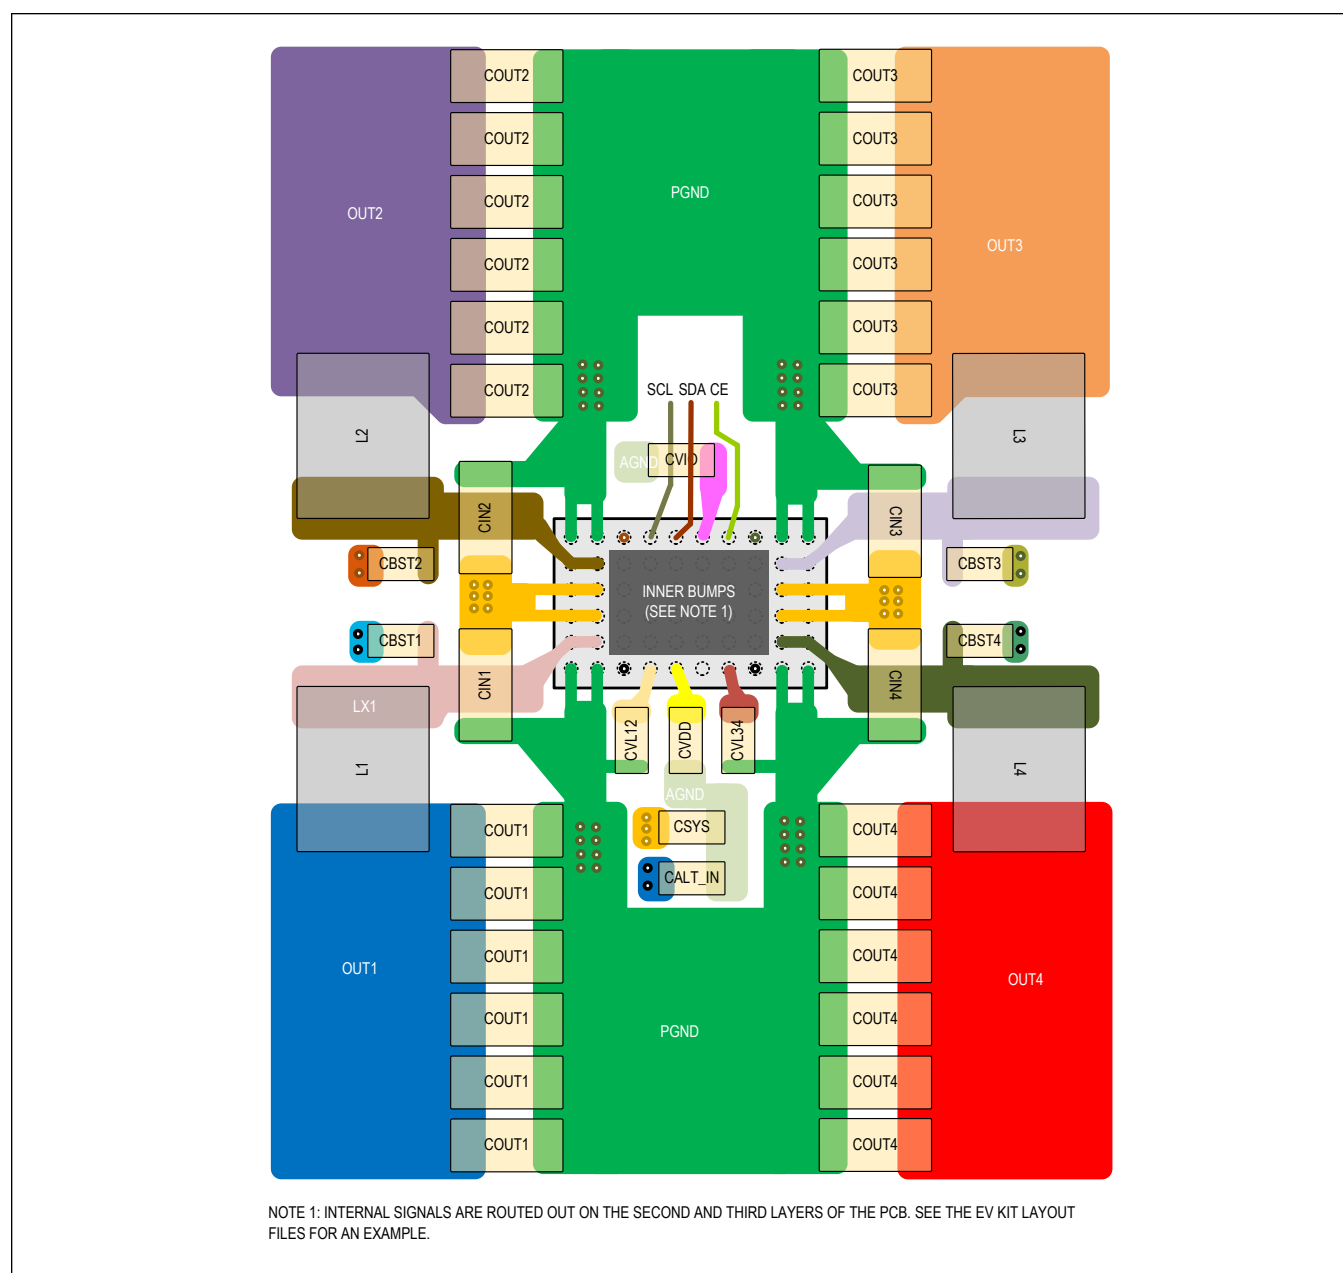

Figure 15. PCB Layout Example
- The power components should be placed first followed by the small analog control signals (see Figure 15).
- The power stage loop that is made by the input capacitor (C_{IN}), the LX trace, the inductor (L), and the output capacitor (C_{OUT}) coming back to the PGNDx pins should be minimized in consideration of EMC.